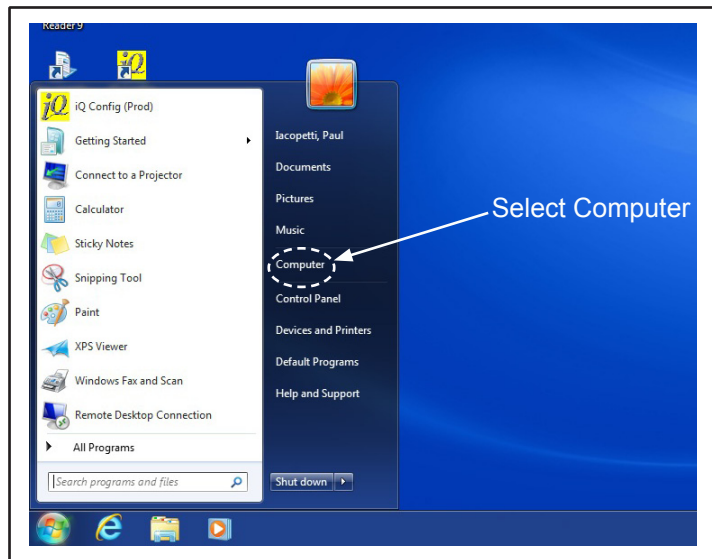

Figure 2-7 Start Menu, Select Computer (Windows 7)
1. Select **Computer** as shown in Figure 2-7 below.